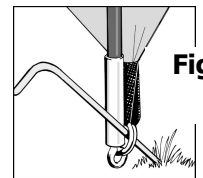

Figure 2.
- Start pegging out the tent at the front corners using steel V pegs. Pegs should be positioned at a 45° angle to ensure maximum grip (see figure 2).
- Peg the corners of the tent through the metal rings using pin-pegs. It is important to drive the peg into the ground at a 45 degree angle to obtain the best grip. (See Figure 2).